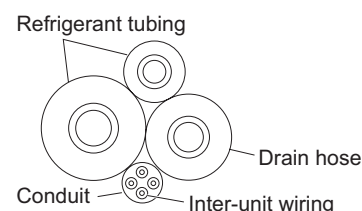

Fig. 2-256
- (5) Assemble the refrigerant tubing, drain hose, and conduit (including inter-unit wiring) as shown in Fig. 2-256.